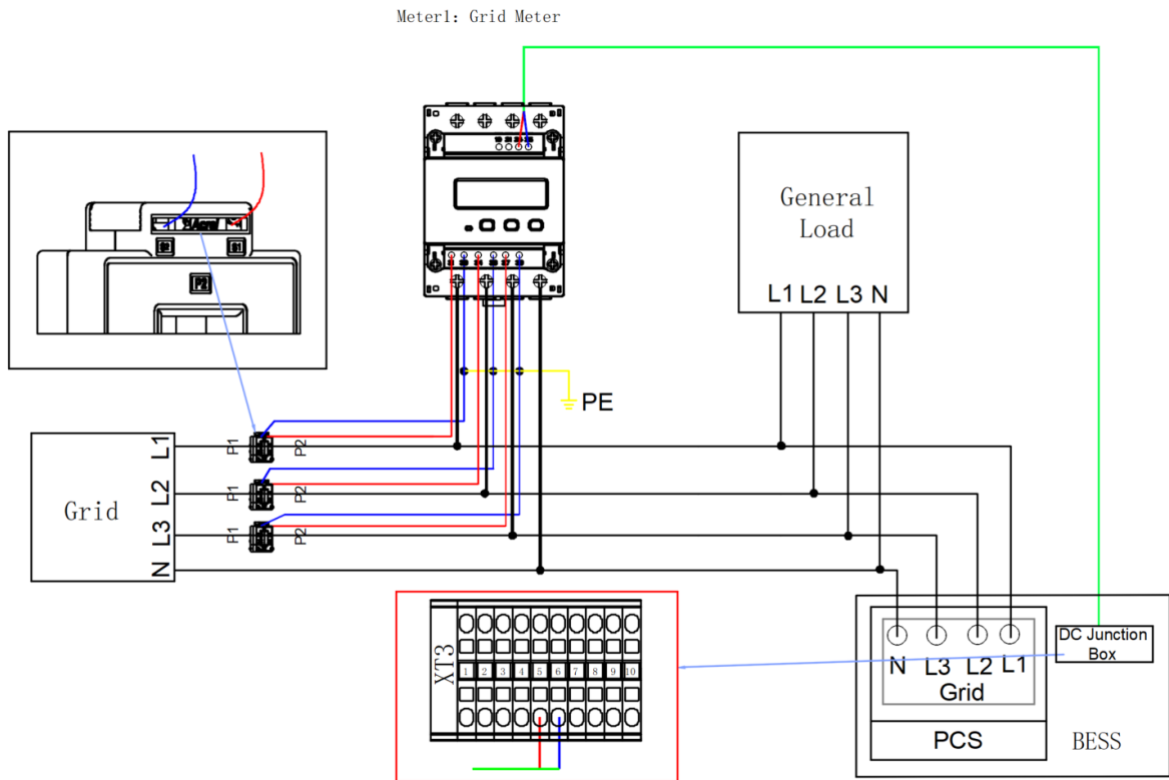

Figure 3 Electricity meter wiring diagram (DC mode)
- 2.The L1 phase of the power grid enters and exits from the P1 side of the meter CT, and is connected to the L1 phase of the power grid side of the STS (when STS is not configured, this is the transformer). The secondary port S1 of the meter CT is connected to the meter port 31, and the secondary port S2 of the meter CT is connected to the meter port 33. Please refer to Figure 3.